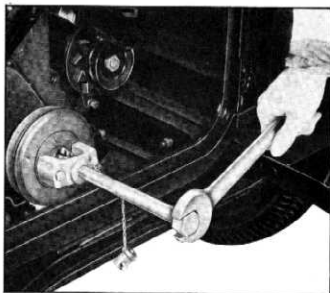

Fig. 32—Removing Harmonic Balancer
- Install harmonic balancer puller J-1287 to harmonic balancer and turn puller screw to remove balancer and pulley assembly (fig. 32).